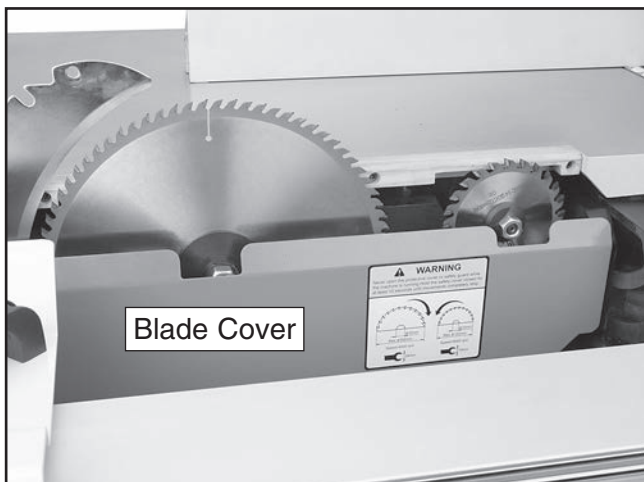

Figure 77. Internal blade cover exposed.
3. Move the sliding table all the way forward to expose the internal blade cover, as shown in **Figure 77**.